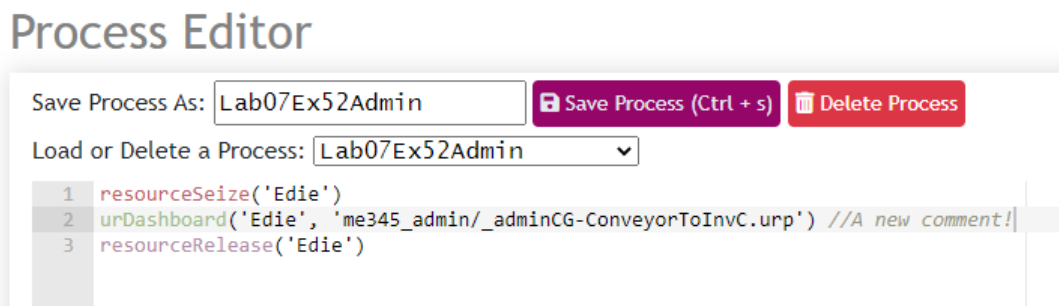

Figure 9: Process Editor with a completed urDashboard task
15. Make this simple program more robust and easier to read, as shown in Figure 9: